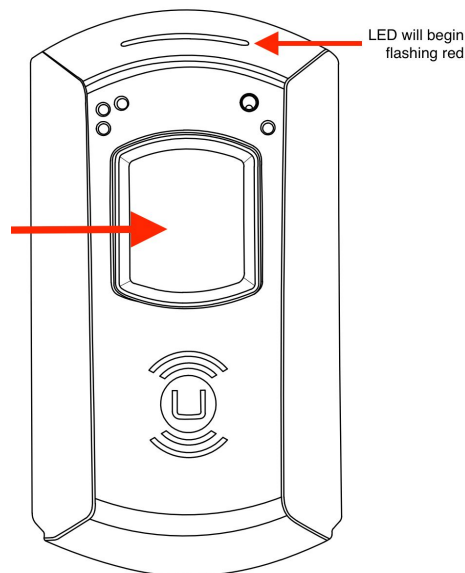

Figure 8
1. Push and hold the center button on the wearable device for 2 seconds. (Figure 8)
2. The LED on the wearable device will begin flashing red. (Figure 8)